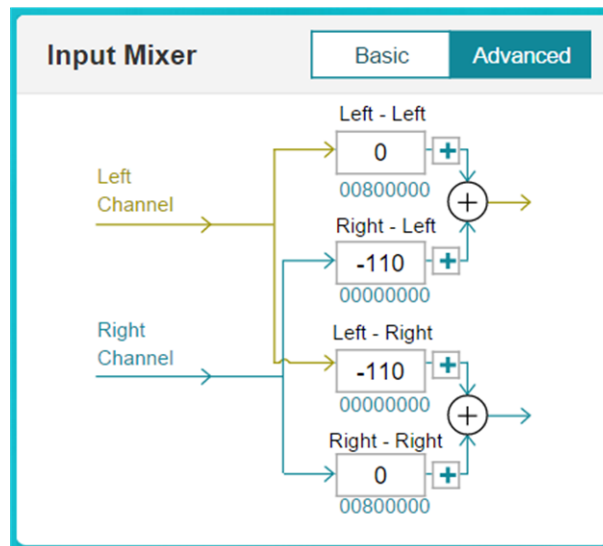

Figure 4. Input Mixer Setting
- Input mixer: The input mixer is designed to mix both left and right channel input signals. The *Basic Tab* (see Figure 4) offer an intuitive method for configuration in PPC3 GUI. Switch to the *Advanced Tab* if all the four coefficients need to be fine-tuned. The parameters need to be specified in decibels (dB). The *Invert* option reverse the sign of the gain values.